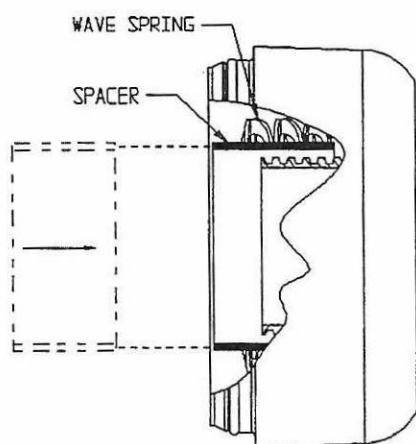

Figure 9 - Hublock Cap With Spacer
8. Insert spacer (tubing) inside wave spring as shown in Figure 9. Make sure that wave spring is coiled properly (not overlapping).